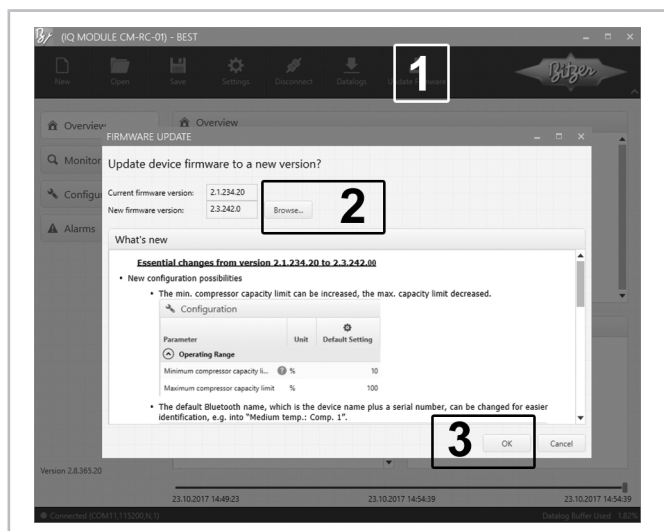

Fig. 12: Updating the firmware
- Select FIRMWARE UPDATE (1) and BROWSE (2) (see figure 12, page 12).
- Start firmware update and wait until successful update is confirmed. Click OK to confirm (3).